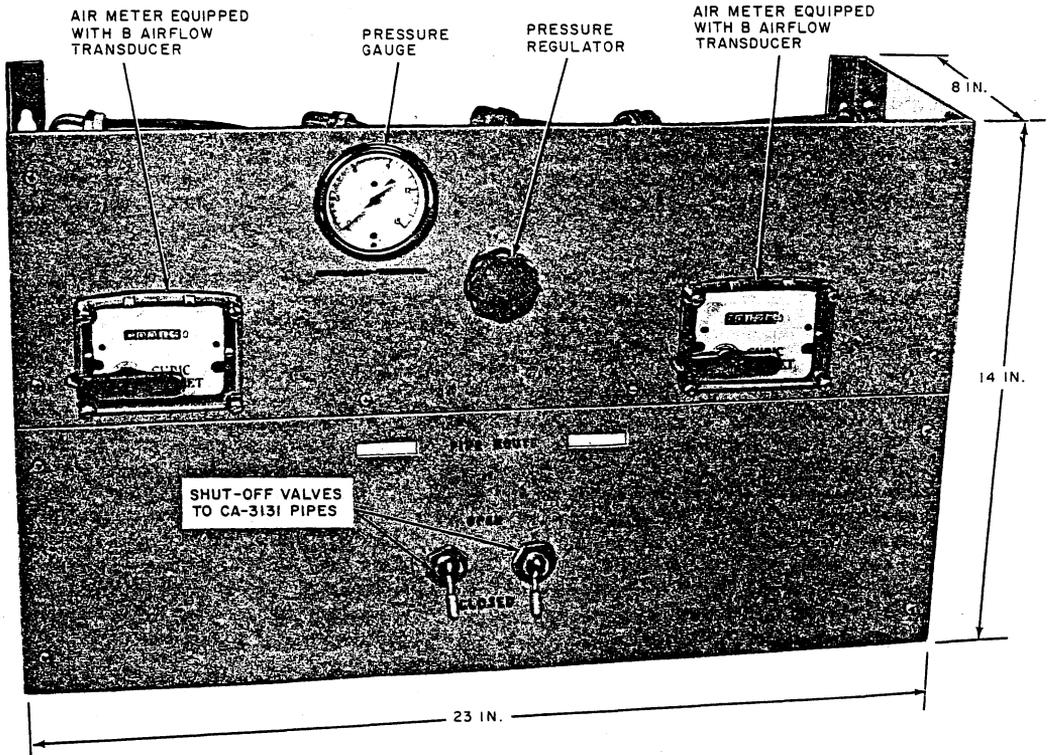

Fig. 2—D Meter-Panel—Front View
3.04 The D meter-panel illustrated in Fig. 2 is designed for use with *automatic monitoring systems* (with CPMS). The D meter-panel is essentially the same as the C meter-panel, except